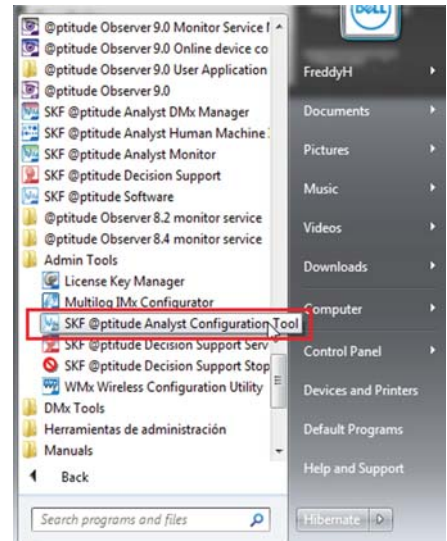

Fig. 15. Open SKF @ptitude Analyst Configuration Tool.
- Go to: **Start / All programs / SKF @ptitude Monitoring Suite / Admin Tools / SKF @ptitude Analyst Configuration Tool** (→ fig. 15).